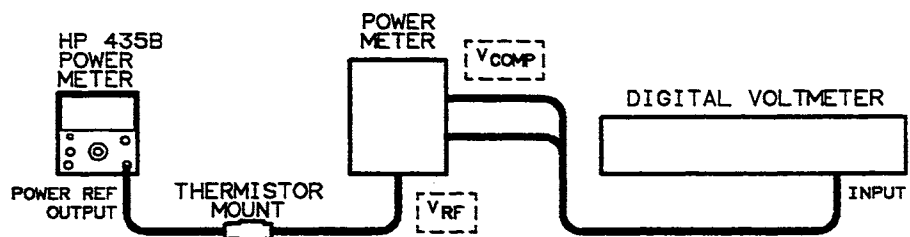

Figure 4-1. Power Reference Level Test Setup
2. Round off the DVM indication to two decimal places and record this value as the internal bridge resistance (R) of the power meter (approximately 200 ohms).
3. Connect the HP 432A Power Meter to the HP 435B Power Meter as shown in Figure 4-1.